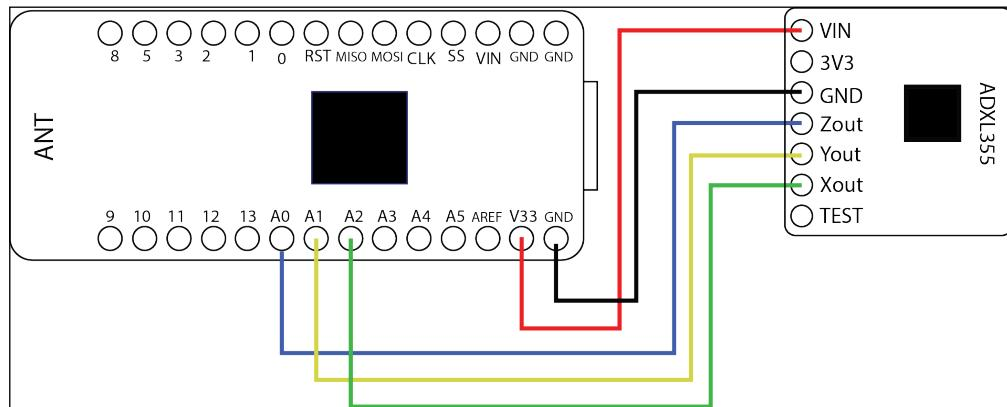

Figure 7.7: The ADXL335 connected to the Blend Micro
You can connect it as per the following sequence as shown in *Figure 7.7*:
*Figure 7.7* shows all the connections that need to be made. In the case of the ADXL335, you can connect it to either 3.3V or 5V if you ever use it with a standard Arduino.